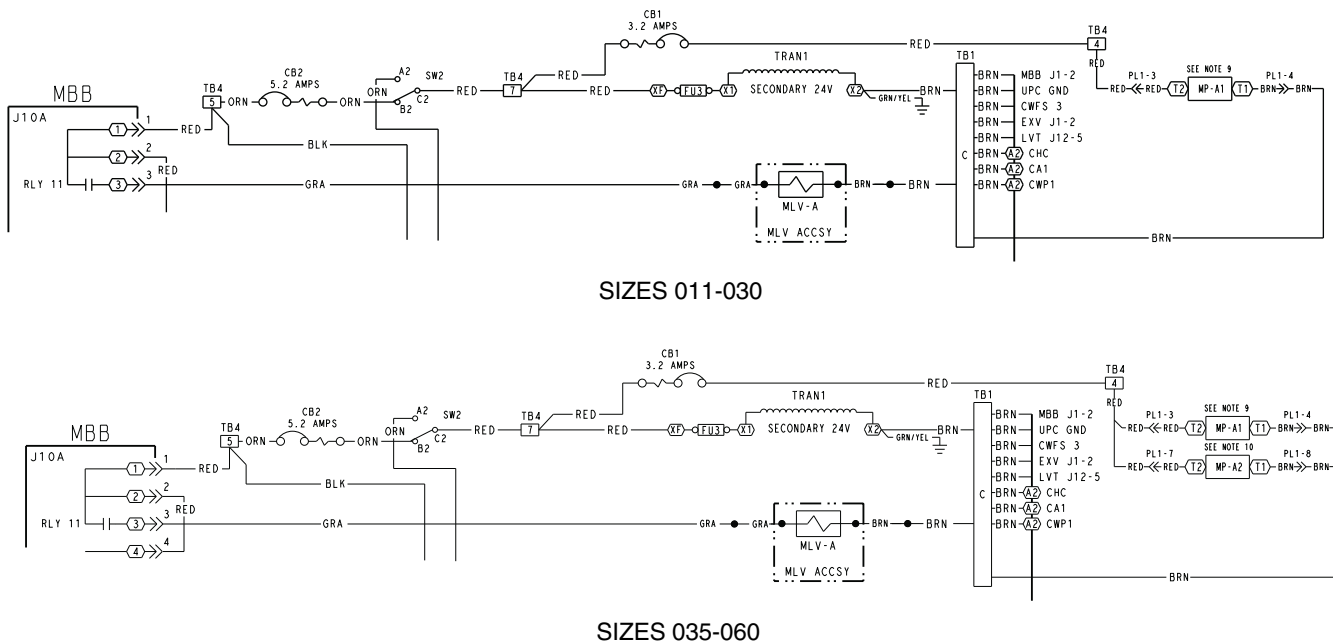

Fig. 10 — Solenoid Coil Wiring (30RAP)
3. Cut off the capped ends, strip the wires back 1/2-in., and wire the solenoid coil(s) to the MLV terminals. See Fig. 10.